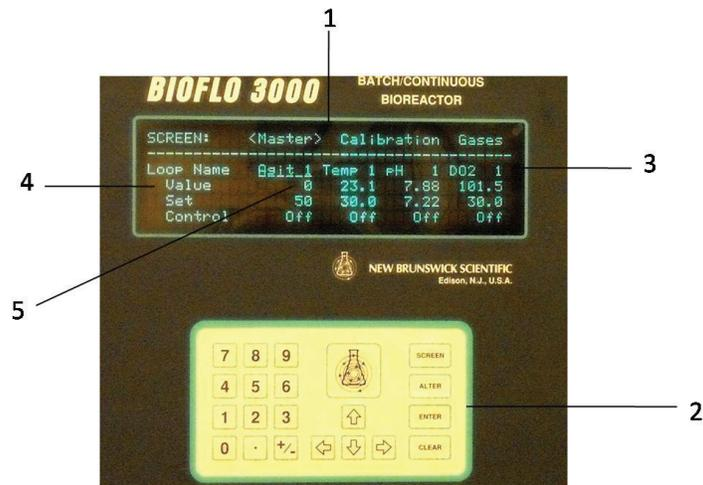

Figure 6: BioFlo 3000 Controller
- 9.6. Figure 6: BioFlo 3000 Controller